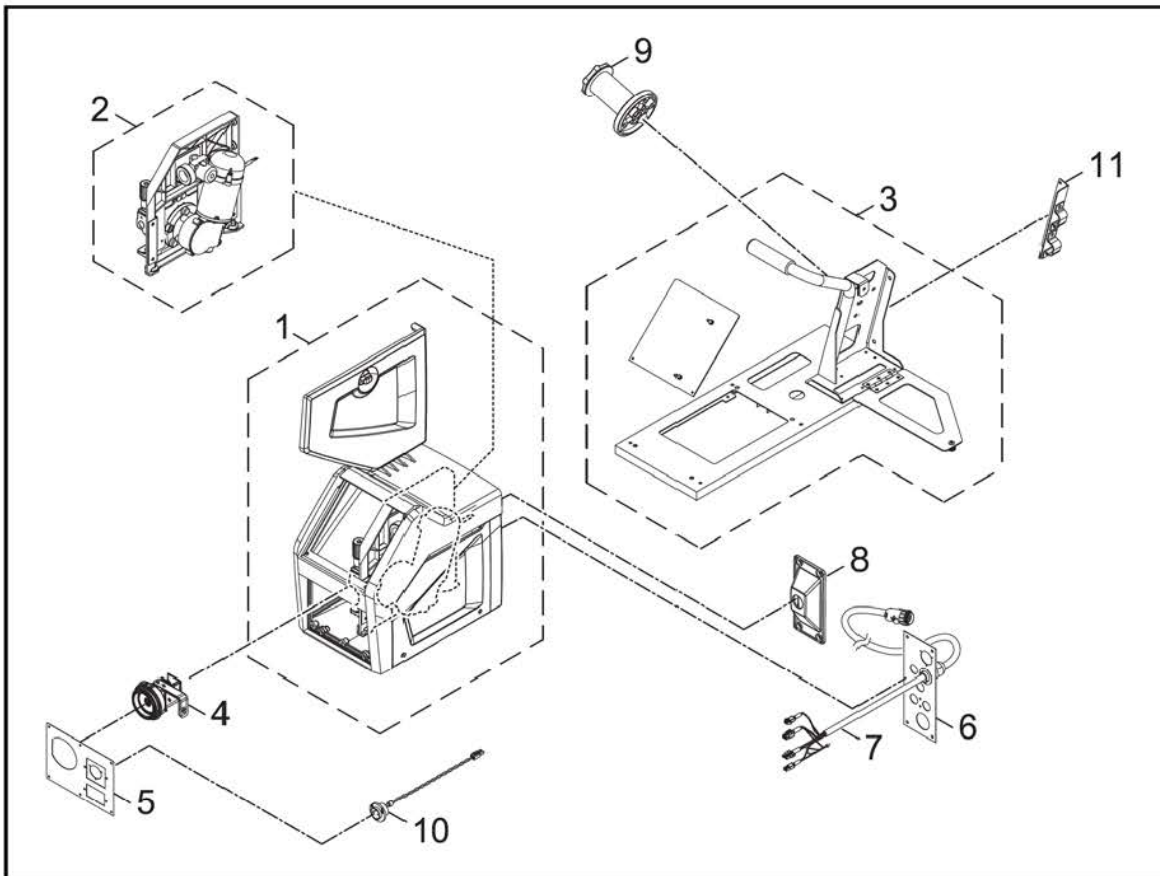

Fig.1 Main Body and Wiring Assembly
9.1. Main Body and Wiring (Fig.1)